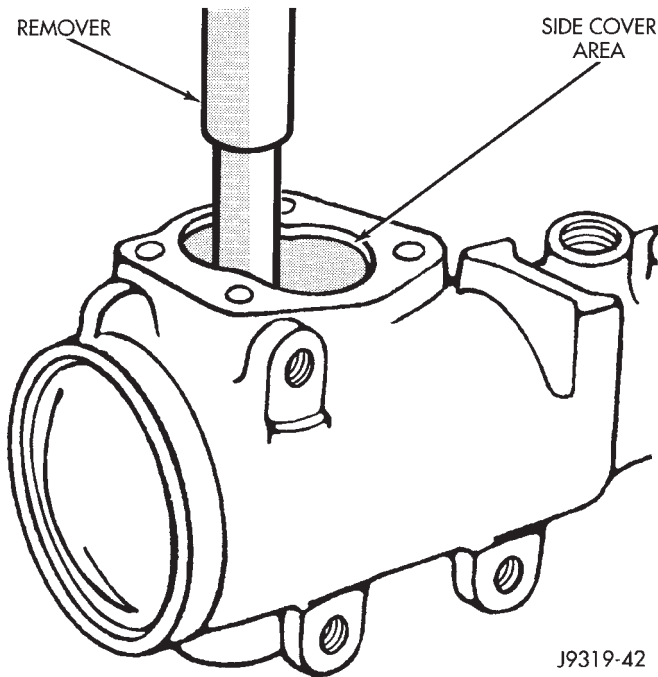

Fig. 36 Needle Bearing Removal
(4) Remove backup washer and double lip seal with screwdriver.
(5) Remove backup washer and single lip seal with screwdriver.
(6) Inspect the housing for burrs and remove if necessary.
(7) Remove needle bearing from side cover area of housing (Fig. 36).